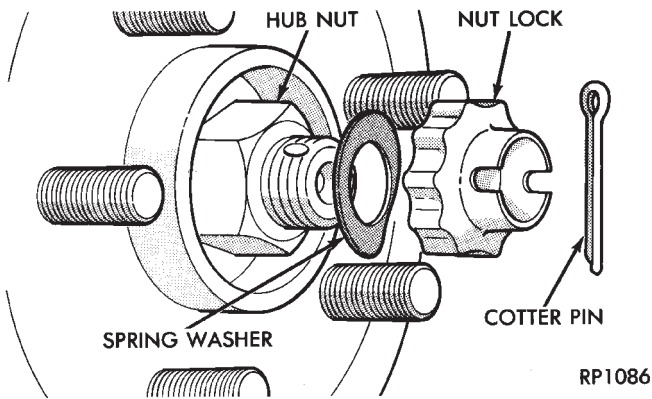
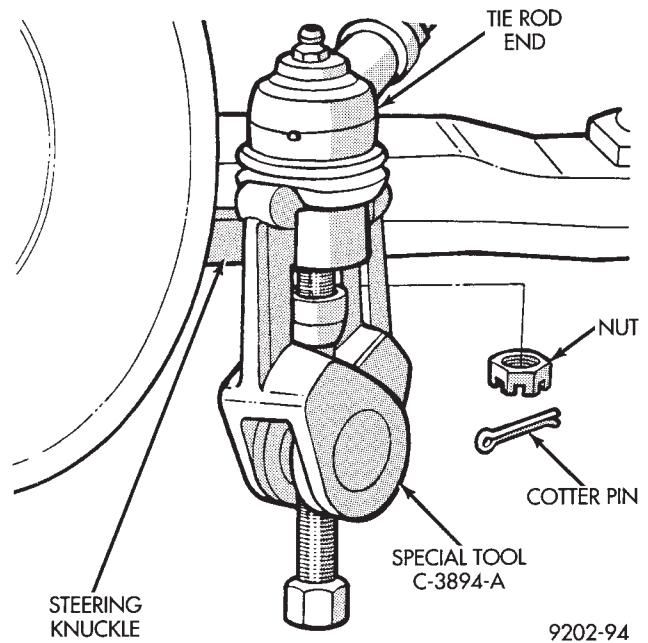

Fig. 3 Remove Cotter Pin, Nut Lock, & Spring Washer
Fig. 5 Disconnect Tie Rod End
(1) Remove cotter pin, hub nut lock, and spring washer (Fig. 3).
(3) Raise vehicle, see Hoisting Recommendations in Group 0 of this service manual.
(4) Remove the hub nut and the washer from the stub axle (Fig. 3).
(5) Remove the wheel lug nuts, and tire and wheel assembly from the vehicle.
(6) Disconnect tie rod end from steering arm with Puller Special, Tool C-3894-A (Fig. 5).